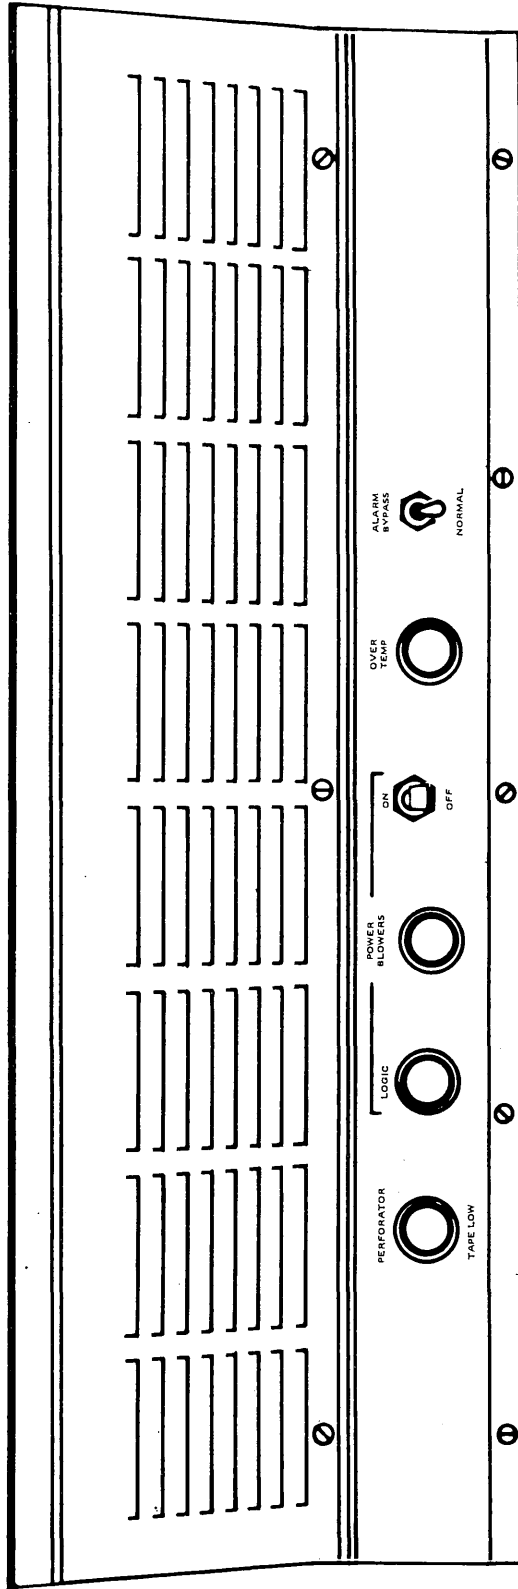

Figure 2-2. I/O Console Power Panel (Hood Assembly).
2-5. Power Panel. The power panel on the I/O Console is mounted on the hood assembly and contains the switches and indicators applicable to the power for the unit. These devices are illustrated in figure 2-2 and the function(s) of each are listed in table 2-2.
- a. Set POWER ON/OFF switch (figure 2-2) to the ON position. Determine that LOGIC POWER and BLOWER POWER indicators light, showing application of operating power to logic chassis and fan assemblies. If both indicators do not light, remove power from the I/O Console and perform necessary maintenance before proceeding.